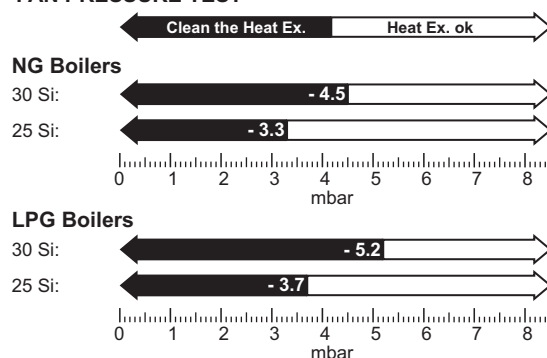

Fig. 79 Fan pressure readings
- ▶ The pressure will read negative, refer to the chart in figure 79.